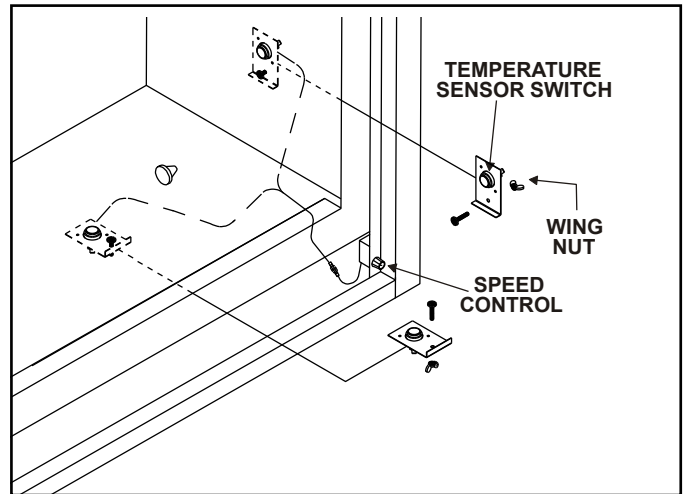

Figure 3. Mounting the Temperature Sensor Switch
2. Slide the temperature sensor switch/bracket assembly onto the weld stud on the outside of the combustion chamber. Secure the bracket assembly with the wing nut provided. See Figure 3.